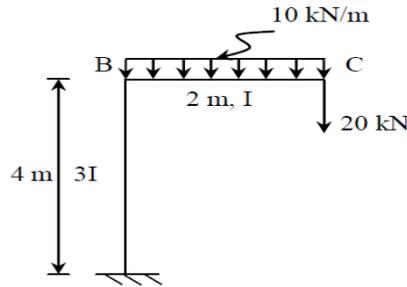

Fig. 7(b)
b. Find the vertical deflection at point C for the frame shown in Fig. 7(b) using Castigliano’s method. Assume $E = 2 \times 10^5 \text{ N/mm}^2$ and $I = 2 \times 10^8 \text{ mm}^4$. **15** (2 :4 : 1.3.1)